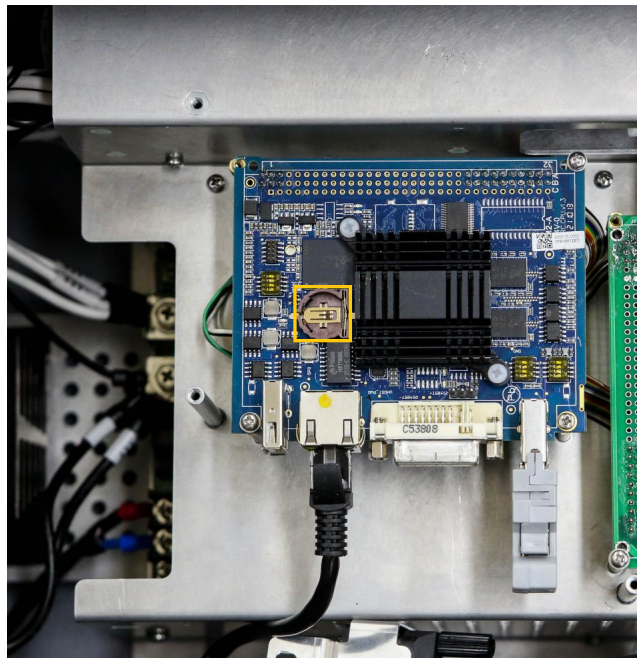

Figure 5-6 : Battery installation position
3. Use a Phillips screwdriver to remove the 7 fixing screws protecting the sheet metal on the core board, remove the sheet metal, and find the installation position of the 3V button battery on the core board, as shown in **Figure 5-6** .